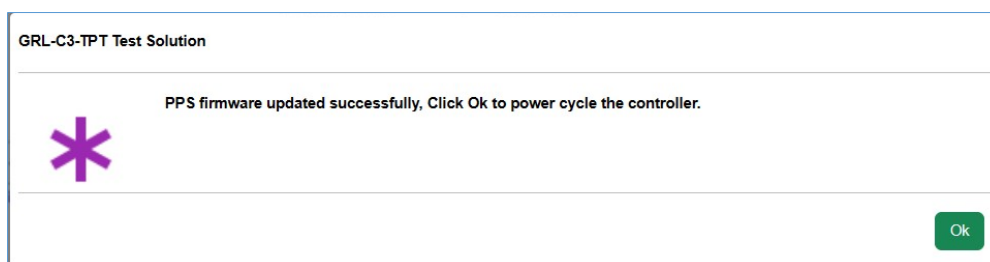

FIGURE 7.7: UPDATE GRL-C3-TPT FIRMWARE- #4
4. Once the firmware update has completed successfully, click “Ok” to power cycle and reboot the GRL-C3-TPT tester hardware (Figure 7.7 below).